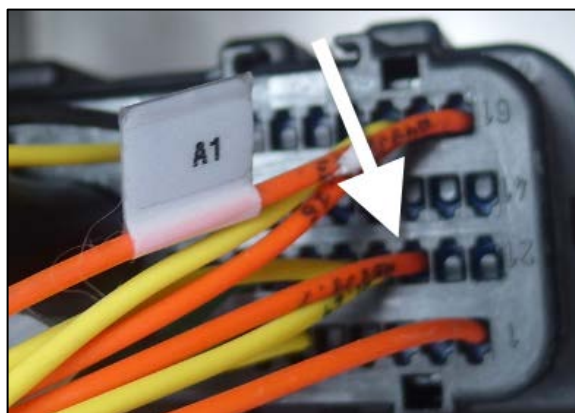

Figure 38
74. Remove the orange wire #82A on pin #23 from the A1 module connector (Figure 38). Use extractor #682486.